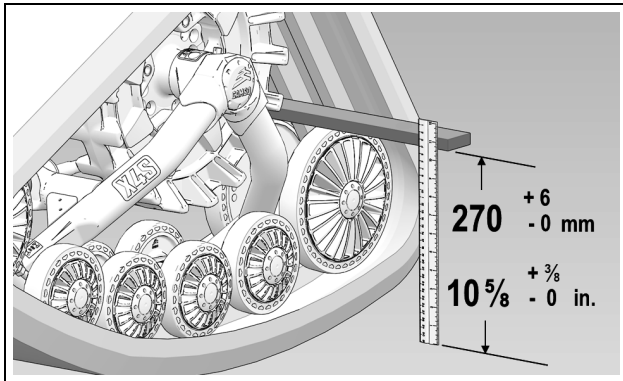

Figure 4
- Position a flat bar on top of rear wheels of front track system and measure from the ground up to flat bar as shown on Figure 4.